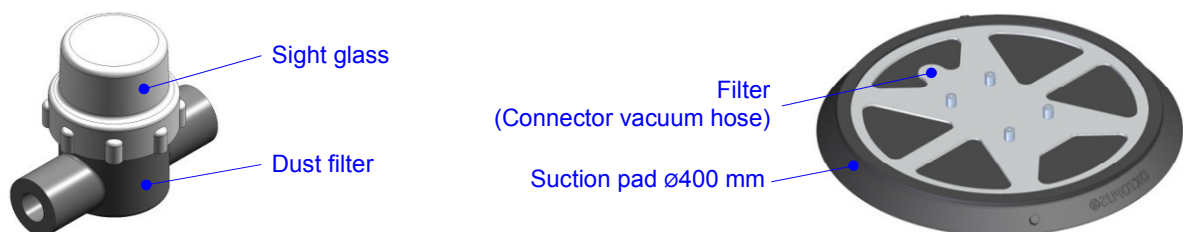

Fig. 15: Dust filter and suction pad
- ⇒ Cleaning if dust can be seen in the filter (see figure 15). Therefore, remove the cover of the vacuum unit when there is no vacuum (see fig. 1; pos. 11), unscrew the plastic cap of the dust filter, take the foam insert out and clean it, reassemble the dust filter.